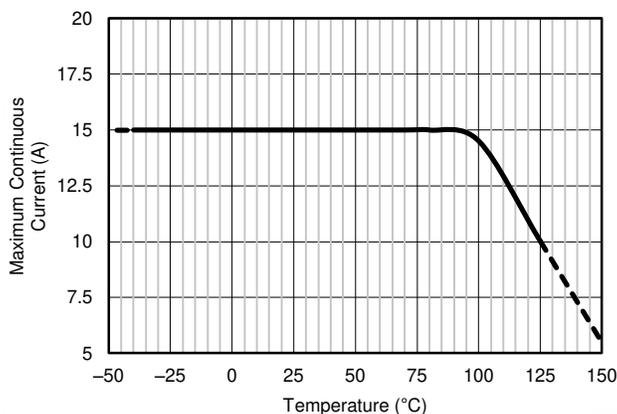

图 7-1. Maximum Current vs Temperature
- (3) The supply voltage maximum is 36 V, but the reference voltage cannot be higher than 18 V.
- (4) See 图 7-1 and the *Layout* section for additional information on the current derating and layout recommendations to improve the current handling capability of the device at higher temperatures.
- (5) See the 节 7.3.1 section for additional information regarding the integrated current-sensing resistor.
- (6) System gain error includes amplifier gain error and the integrated sense resistor tolerance. System gain error does not include the stress related characteristics of the integrated sense resistor. These characteristics are described in the *Shunt Resistor* section of the *Electrical Characteristics* table.
- (7) The internal shunt resistor is intended to be used with the internal amplifier and is not intended to be used as a stand-alone resistor. See the *Integrated Shunt Resistor* section for more information.
External factors (such as ambient temperature, external air flow, and PCB layout) can contribute to how effectively the heat developed as a result of the current flowing through the total package resistance can be removed from within the device. Under the conditions of no air flow, a maximum ambient temperature of 85°C, and 1-oz. copper input power planes, the INA250 can accommodate continuous current levels up to 15 A. As shown in Figure 7-1, the current handling capability is derated at temperatures above the 85°C level with safe operation up to 10 A at a 125°C ambient temperature. With air flow and larger 2-oz. copper input power planes, the INA250 can safely accommodate continuous current levels up to 15 A over the entire -40°C to 125°C temperature range.